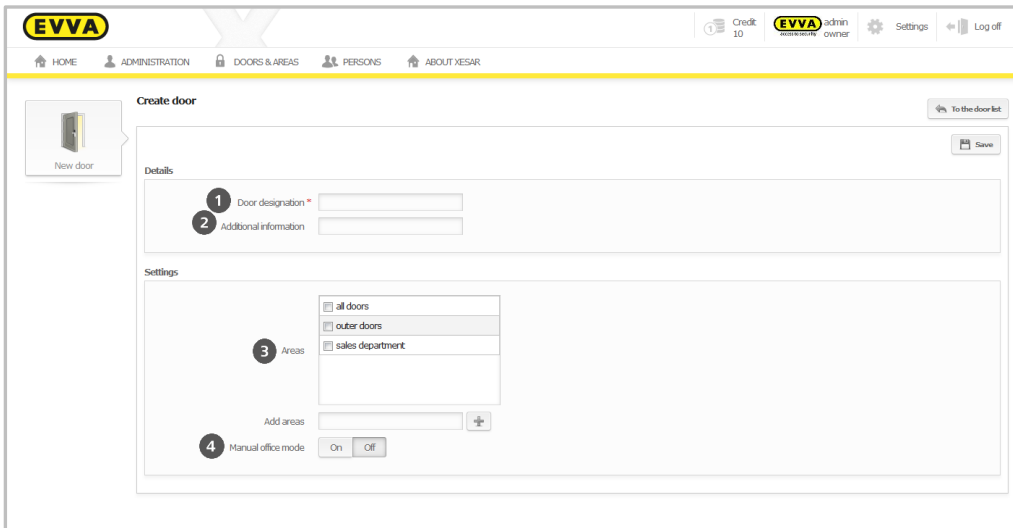

Figure 74: Creating doors
When you create doors it is important to enter a unique **Door designation** ❶ (mandatory field) to safeguard the doors in the software can be assigned to the doors within the facility, e.g. Main entrance. There is also the **Additional information** field ❷ (optional field) intended for additional door information, e.g. the room number (Figure 74: Creating doors).
Select the areas to which you would like to add doors in the **Areas** field . You can also create additional areas in this section (Figure 74: Creating doors).